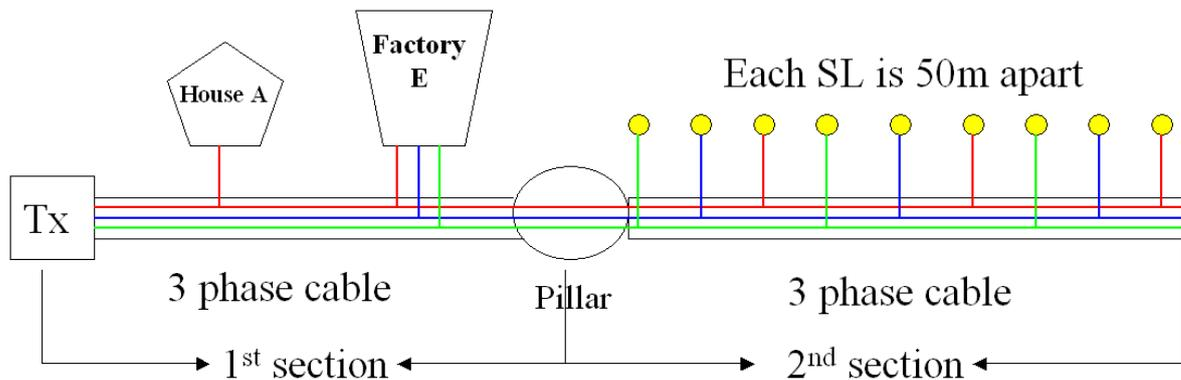

Figure 2.1: shows the physical layout out of SL circuit
As can be seen in Figure 2.1, the longest phase, which has the lamp at the end, is the red phase. Hence, we only need to be concerned about the voltage drop (VD) of the red phase and if this VD is within the acceptable limit, then the other two phases will also be within limits.